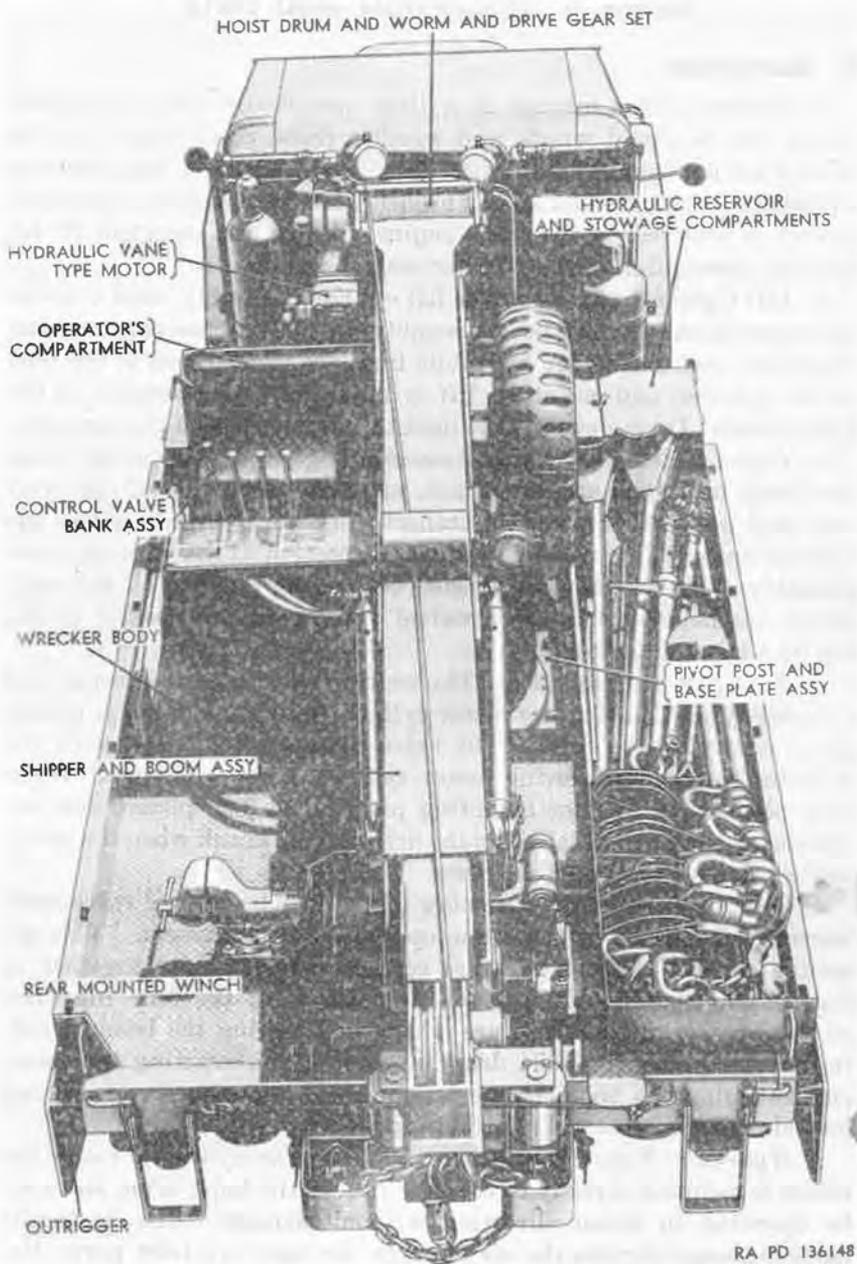

Figure 3. Medium wrecker M62—top view.
*e. Control Valve Bank Assembly* (fig. 3). The control valve bank assembly is located in the crane operator's compartment. This assembly consists of four separate control valves, bolted together to form a single unit. Each valve controls one of the four functions of the wrecker crane which are lifting or lowering the boom, winding or unwinding the hoist drum, extending or retracting the boom, and swinging the boom to the left or right. Each valve is spring loaded and will return to neutral position after use.
*f. Hydraulic Vane-Type Motor* (fig. 3). The hydraulic vane-type motor is mounted directly to the gear case of the hoist drum and may be operated in either direction without damage. The hydraulic balance design divides the oil pressure through two inlet ports diametrically opposite each other and out through the two outlet ports that are also diametrically opposite. This construction eliminates bearing loads resulting from pressure, a major cause of wear. The hydraulic motor is a compact means of changing fluid pressure to rotary mechanical power for turning the hoist drum. A lubricating oil film throughout all moving parts is continuously maintained.
*g. Hydraulic Vane Type Pump* (figs. 3 and 30). The hydraulic vane-type pump is flanged directly to the power divider. The pump is of the balanced vane type having a constant rate of delivery per revolution. The slotted rotor is driven by a splined shaft and a vane in each slot slides radially as the rotor revolves. Centrifugal force and fluid pressure cause the vanes to follow the inside cam contour of the hardened and ground pump ring, which is so shaped that two opposing pump chambers are formed between the body and pressure plate. Inlet flow is received through a port connection in the body, passes around the rotor by vane action through ports in the pressure plate, and out the port connection of the cover. The hydraulic pump is driven by the truck power plant at 1500 rpm governed speed.
*h. Hoist Drum and Worm and Drive Gear Set* (fig. 3). The hoist drum and worm and drive gear set is mounted on the rear of the shipper assembly and is powered by the hydraulic vane-type motor. The worm and drive gear set is of hourglass construction. With reasonable care and proper lubrication there will be little reason to disassemble this unit.
*i. Pivot Post and Base Plate Assembly* (fig. 3). The pivot post and base plate assembly are two separate units assembled together to support and provide axis for rotation of the wrecker crane. The base plate consists of a pivot post support, drive pinion, drive pinion idler gear, drive pinion crank, and bearings. The pivot post includes a shipper support stop plate and a large ring gear welded to its base. The pivot post rotates on two tapered roller bearings and is powered by the swing motor. The swing motor is connected to the drive pinion crank to turn the drive pinion. The drive pinion idler gear engages with the drive pinion and transmits power to the ring gear on the pivot post.
*j. Shipper and Boom Assembly* (fig. 3). The shipper and boom assembly consists of a shipper, boom, and boom cylinder. The shipper is mounted to the shipper support and is elevated or lowered by the lift cylinder. The boom is located within the shipper and can be extended or retracted as operation requires. The boom cylinder is approximately eight feet in length and is used to extend or retract the boom.
*k. Wrecker Body and Outriggers* (fig. 3). A large safety tread platform surrounding the revolving structure is identified as the wrecker body. Grips and steps are located at each end of the body. Tool and stowage boxes are built into the rear of the wrecker body on each side. Rear winch cable guide roller brackets are welded to the rear of the wrecker body. There are four outriggers located one at each corner of the wrecker body. They are of the screw jack type and sufficient leverage can be obtained to effectively counterbalance the loads. The outrigger assembly frame construction takes all the down load, thus eliminating twisting strains on the truck chassis.
*l. Rear Mounted Winch (M62 Only)* (fig. 3). The rear mounted winch is powered from the power divider and has a direct maximum pulling capacity of 45,000 pounds on the first layer of cable. The winch is equipped with a level wind and cable tensioner to assure proper winding of the cable. An adjustable automatic brake is provided on the winch drive worm for holding purposes.
- (4) *Hydraulic reservoir and stowage compartments* (fig. 3). The hydraulic reservoir consists of heavy gage sheet metal formed and welded together to make the oil storage tank. Covered stowage compartments are located on each side of the hydraulic reservoir.